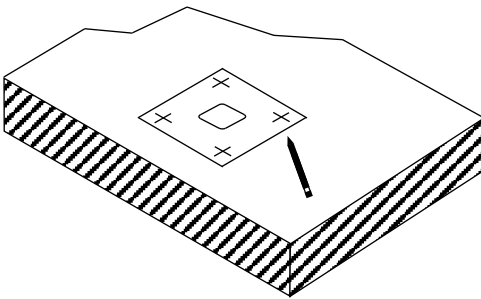

Fig 4
2. Mark screw locations in the ceiling (Fig 4).